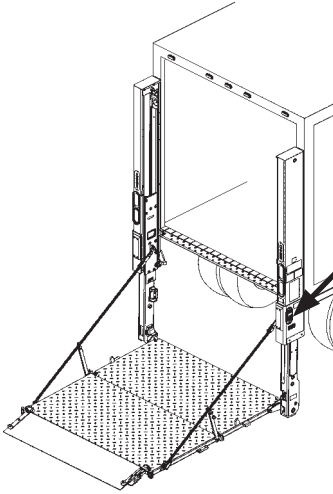
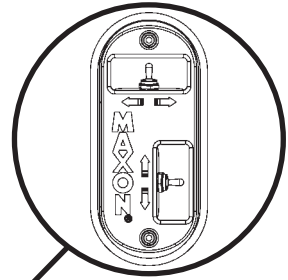

FIG. 12-1
FIG. 12-1A
Toggle switches on column switch (FIG. 12-1A) let operator raise (UP), lower (DOWN), FOLD, and UNFOLD the platform (FIG. 12-1) while standing on the ground.